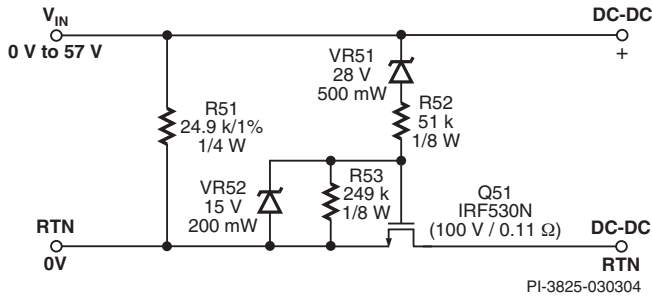

Figure 2. PoE Interface Circuit – Using a MOSFET Pass-Switch.
- MOSFET pass-switch: 97% efficient (Figures 2 and 5)
An alternative MOSFET-based third phase solution (Figure 2) connects the input to the power supply at input voltages above approximately 30 VDC ($28\text{ V} + V_{G(Q51)}$). Resistor R53 prevents